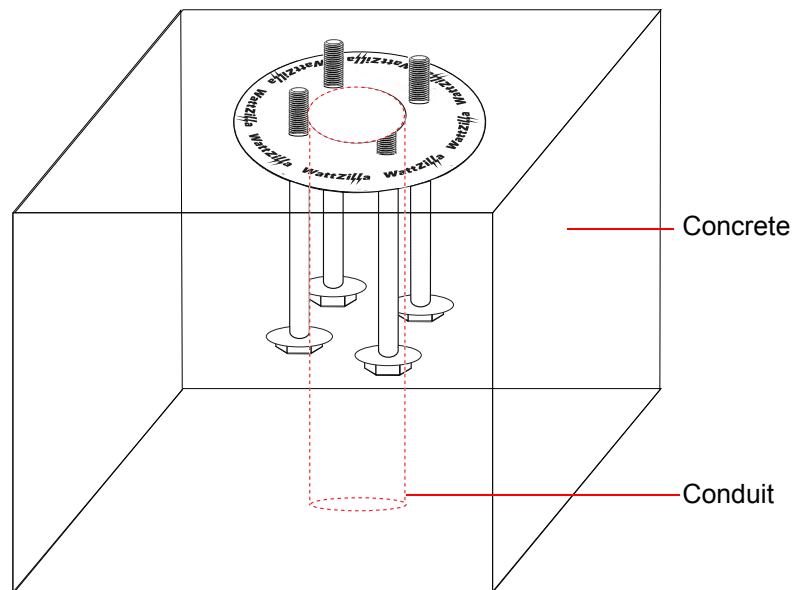

Figure 5. Pole Base Subassembly in Concrete Base
3. Insert and screw the hex anchor bolts (with the attached washers) to the bottom of the bolt positioning plate, leaving 1.5 inches of thread above the plate (Figure 5). (The name *WattZilla* appears on the top of the pole positioning plate, and the threaded ends of the hex anchor bolts are located above the top of the plate.)
4. Route the wiring through a conduit and up through the center of the bolt positioning plate (Figure 5). Starting from the top of the bolt positioning plate, a minimum five feet of electrical wiring should be available for wiring to the QuadZilla enclosure.
5. Pour an adequate amount of concrete to fill the hole or use the amount required by local codes, making sure to route the concrete around the conduit (Figure 5).
6. Immerse the bolts into the center of the concrete with the top side of the bolt positioning plate facing up, ensuring that the bolt positioning plate is located on the top surface of the concrete (Figure 5).